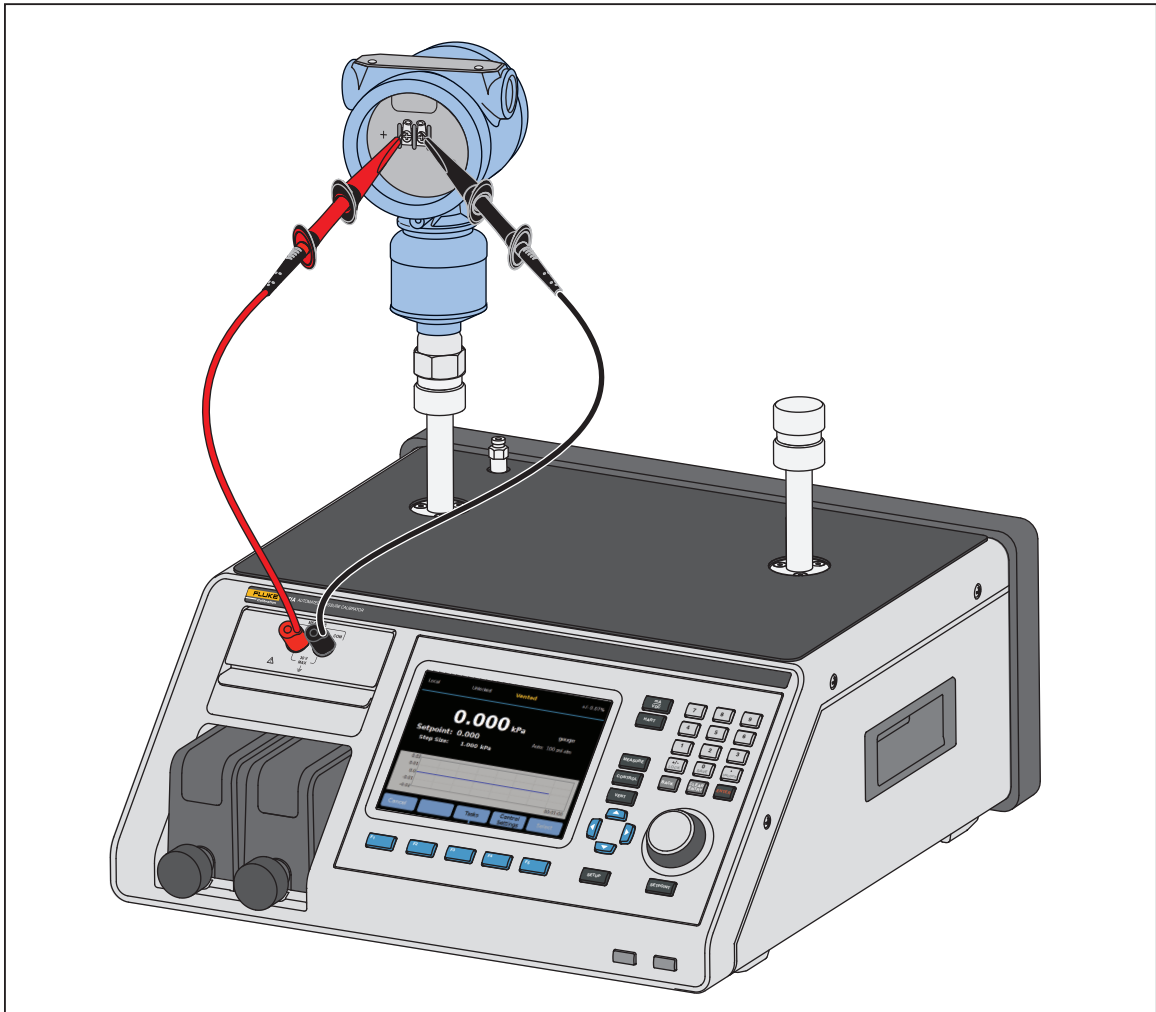

Figure 15. Typical HART Static Pressure Transmitter Connection Through the EMM Module
1. Connect the transmitter to one of the pressure ports and connect the test leads from the EMM to the appropriate terminals on the pressure transmitter. Observe polarity. See Figures 15 and 16. Make sure to plug the other test port that is not in use.
1. Connect the test leads from the EMM to the appropriate terminals on the HART device. Observe polarity. See Figures 15 and 16.